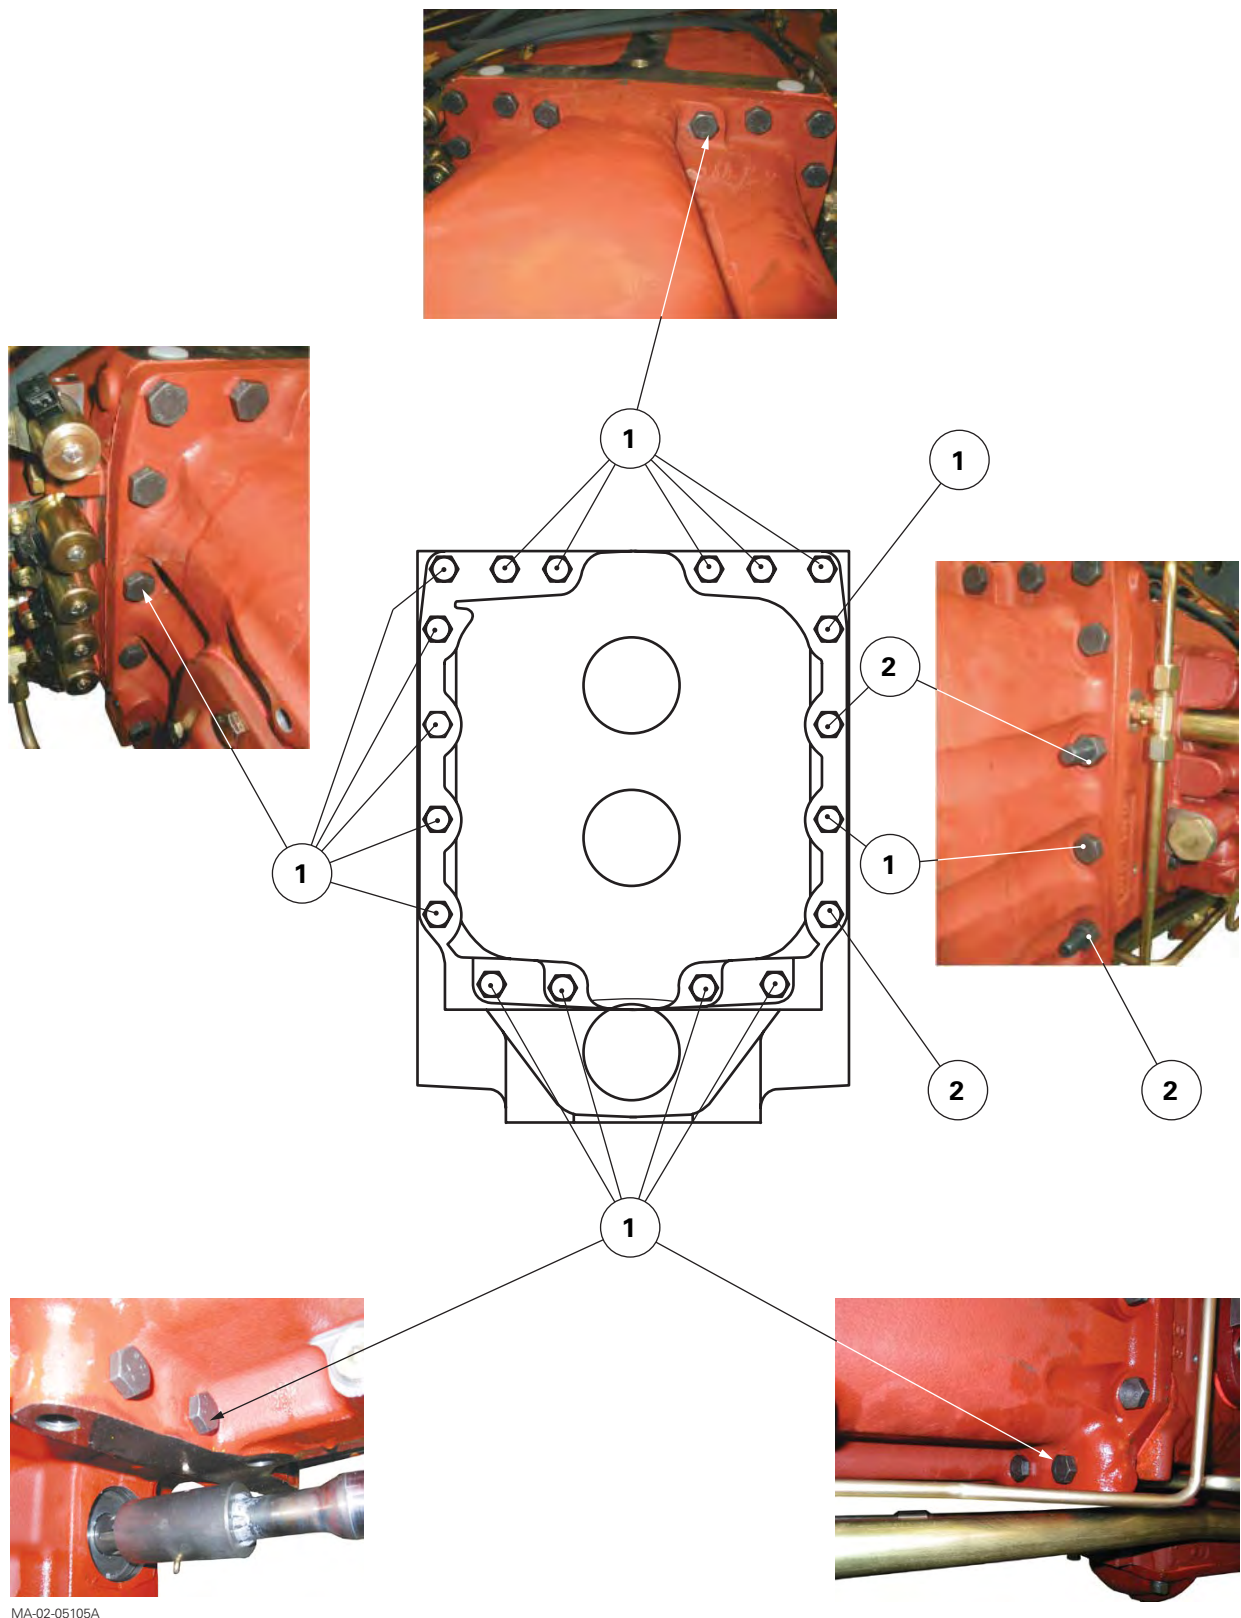

Fig. 6
23. Remove the screws (1) and nuts (2) fixing the gearbox to the centre housing (Fig. 6). Mark their length and position.
38. Fit the screws (1) and nuts (2) (Fig. 6) according to the marks made during disassembly.